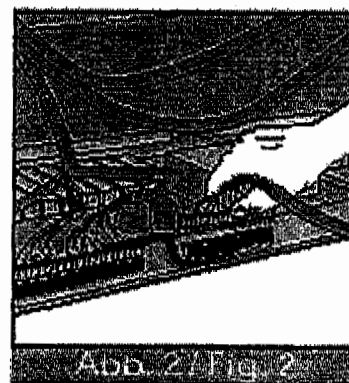

Abb. 2 / Fig. 2
- Unplug all plug connectors at the connector strips. (see Fig. 2)